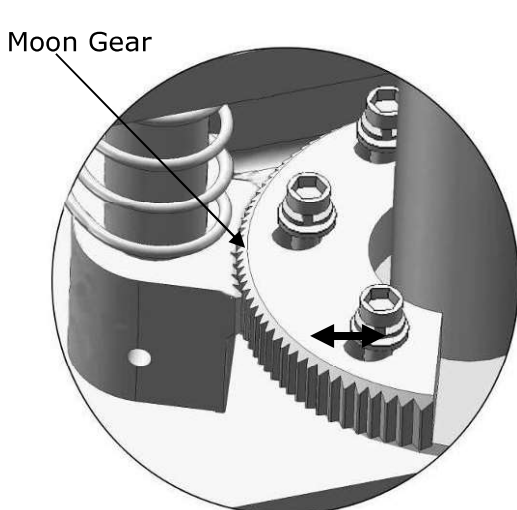

Fig. 36
3. Adjust the arm lock as direction of arrow (See Fig. 36)